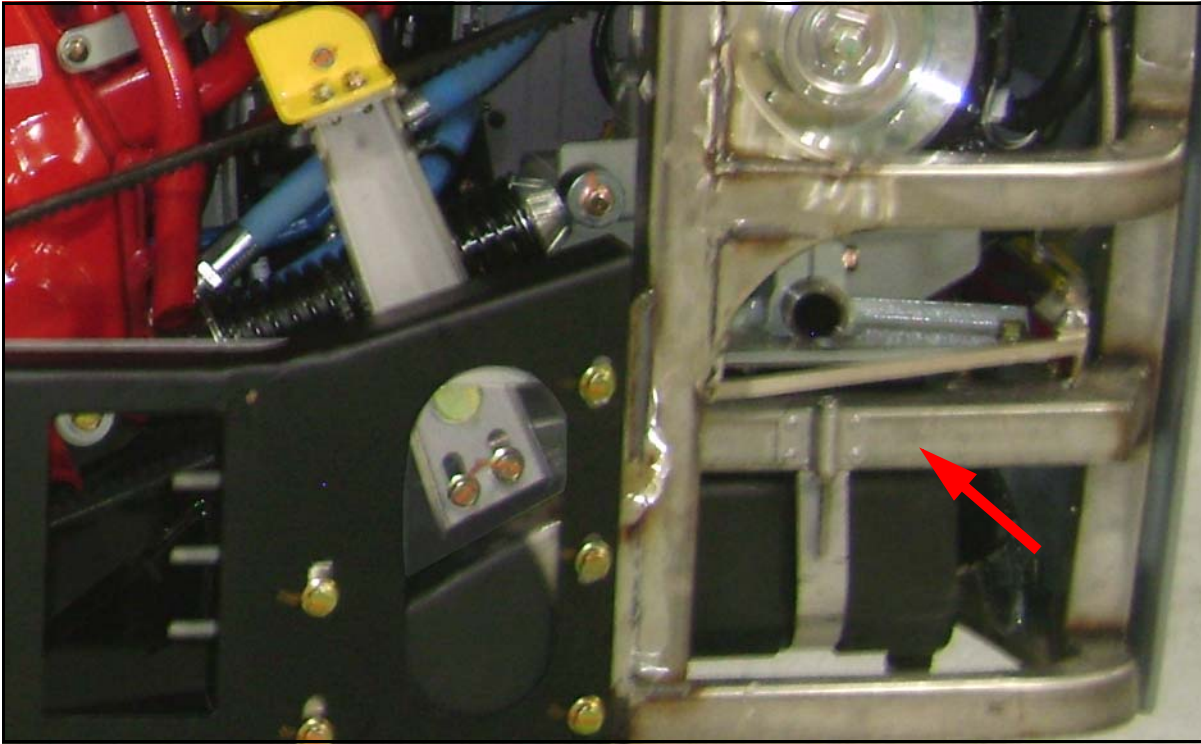

Figure 1. Reference view of front face of A/C compressor support tube.
4. Visually inspect both faces of the A/C compressor support tube for stress damage (refer to Figures 1 and 2). Carefully inspect the area of the idler pulley mounting bracket.